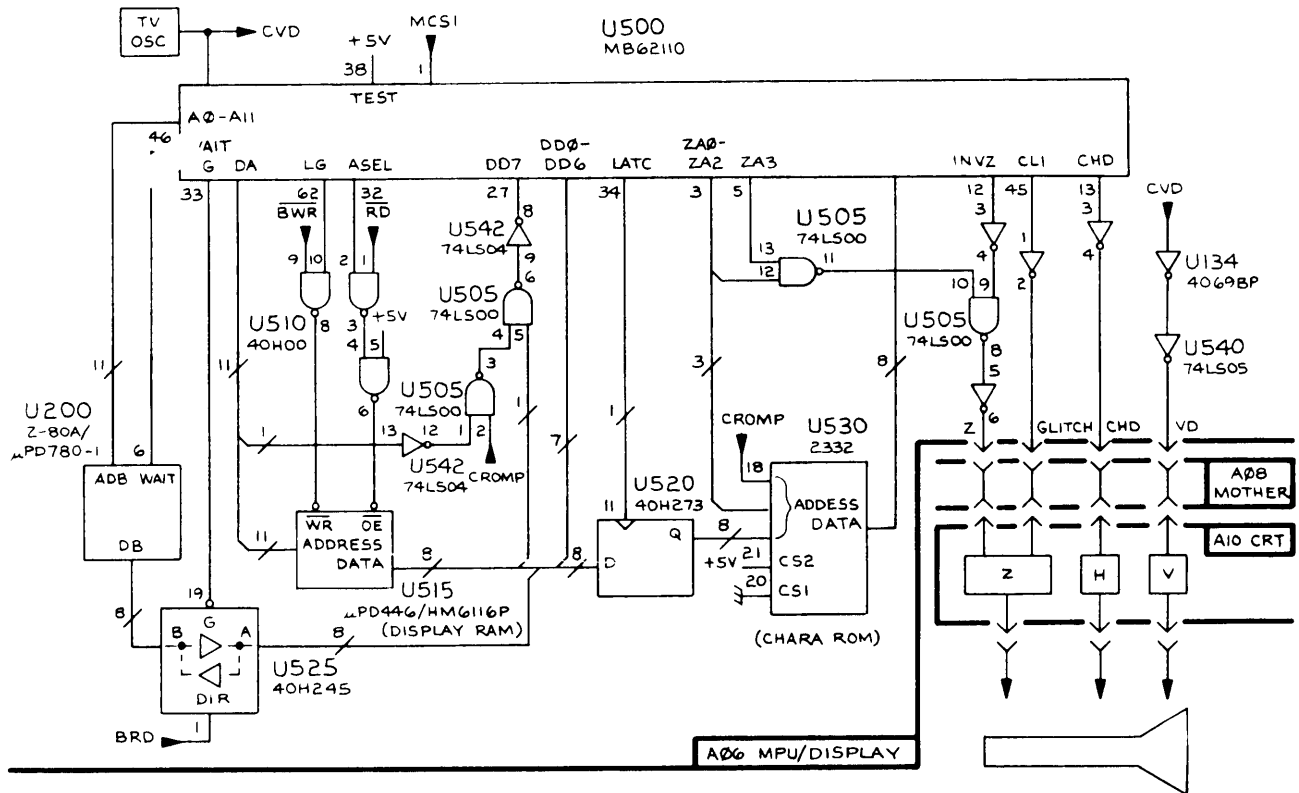

Figure 7-34. 338 CRT calibration and check schematic.
**Description:** Refer to Figure 7-34. The CRT displays 32 characters by 20 lines of data from the Display RAM U515 (16 K-bit static CMOS RAM, uPD446/HM6116P) on the A06 MPU/Display board. Each character in the CRT display uses two bytes of data, consisting of one selection code followed by one character code. A total of 1280 bytes of the Display RAM are used, ranging from address E800 to ECFF.